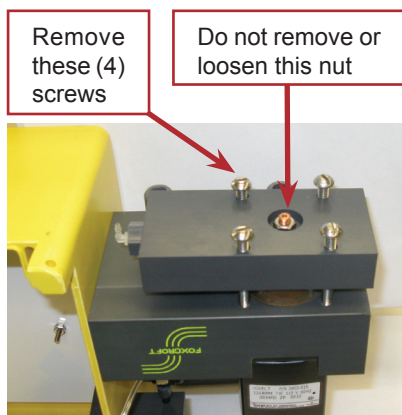

Figure 51
- 4a. While holding the bottom block of the flow cell, unfasten and remove the four bottom screws of the assembly (**Figure 51**).